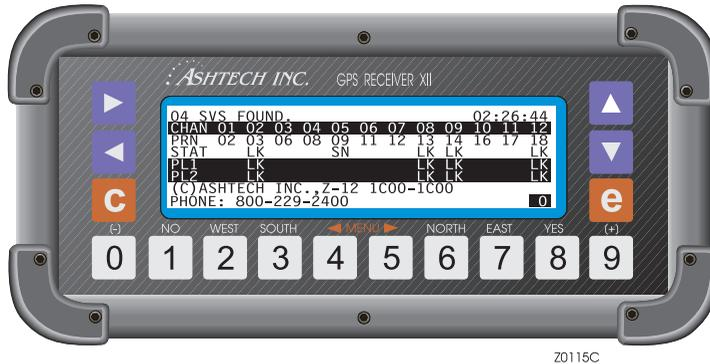

Figure 2.2. Screen 0
4. Start data collection by setting the ON/OFF switch on the rear panel to ON. This initiates a self-test. If the receiver finds a problem, it stops and displays an error message. If the receiver detects no problems, it briefly flashes the copyright, and then displays Screen 0 (Figure 2.2).